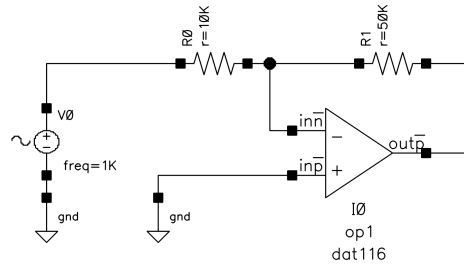

Figure 1: Lab2 circuit diagram
- Exit the add-instance mode with **[ESC]**. Hit **[w]** to enter the wire mode. Connect the components to look something like Figure 1.